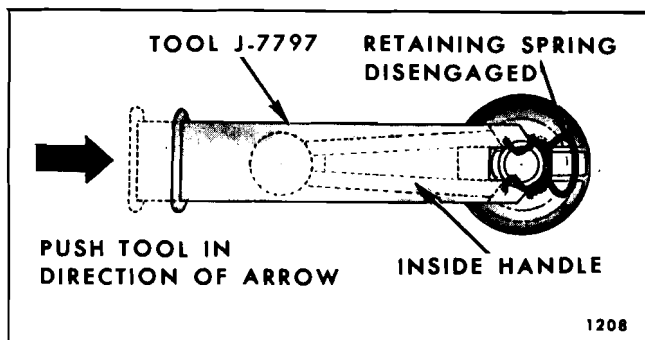

Fig. 14-17—Rear Quarter Window Regulator Handle Removal
1. Depress quarter trim assembly sufficiently to permit insertion of tool J-7797, or J-9886 or equivalent, between handle and plastic bearing plate (Fig. 14-17). As shown in illustration, tool must be in same plane as handle.